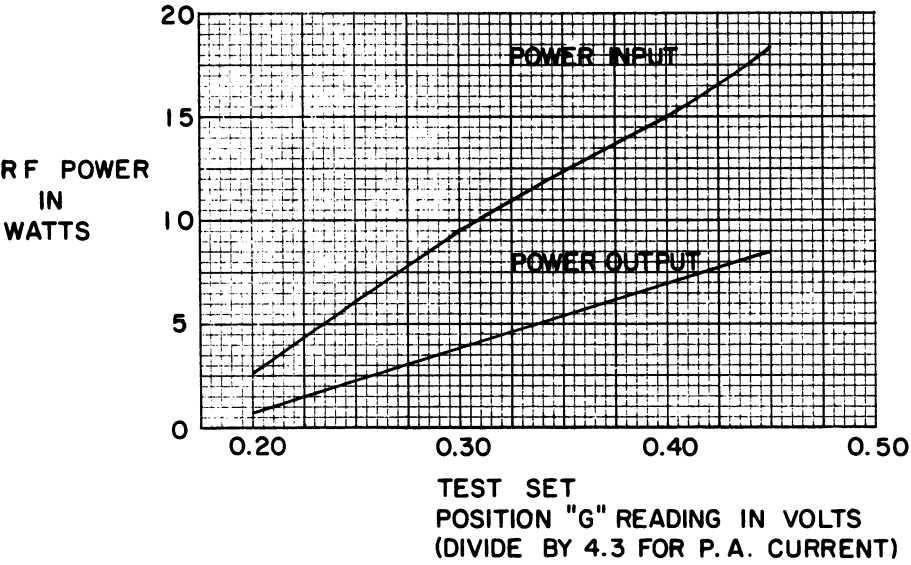
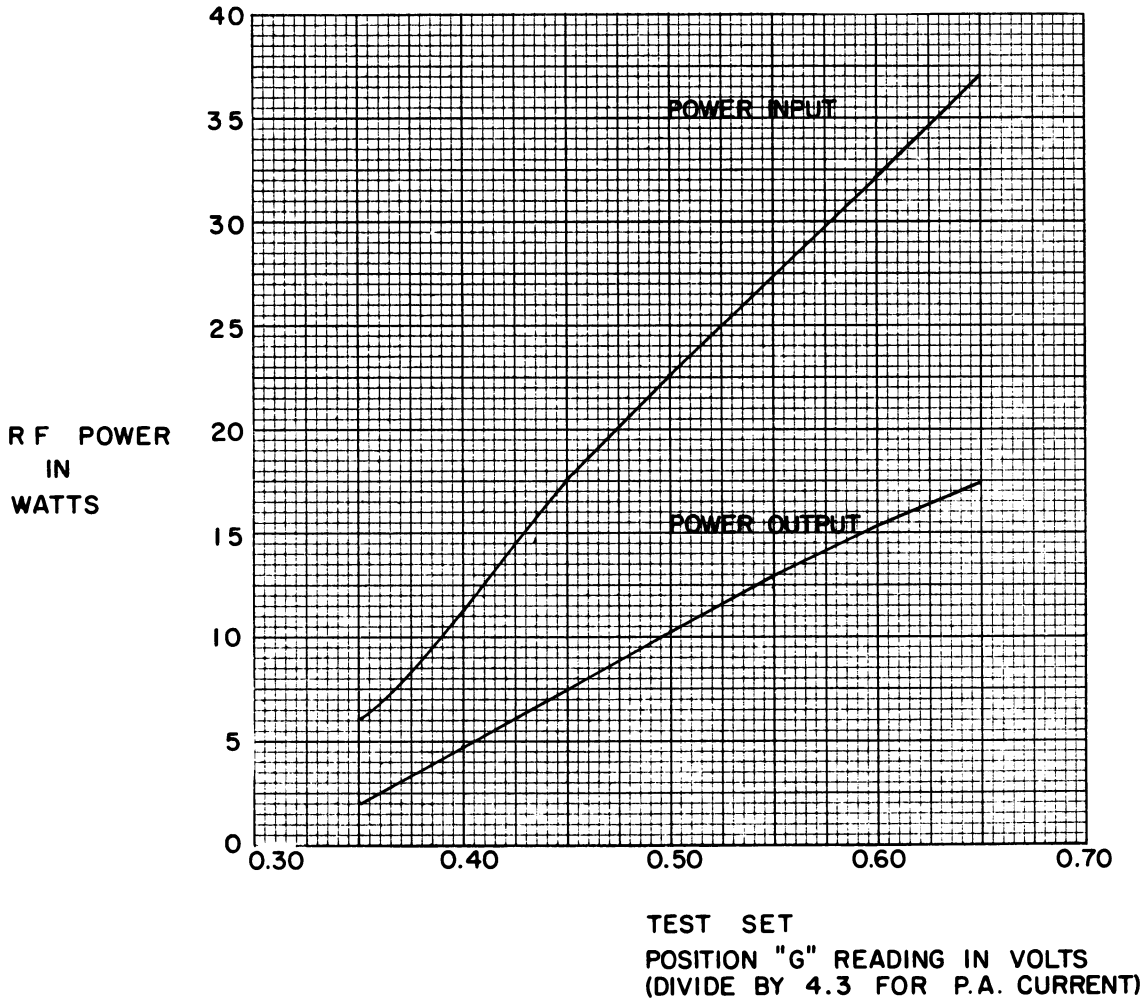

Figure 2 - Power input and output versus Position "G" reading with Ep=300 Volts
Figure 1 - Power input and output versus Position "G" reading with Ep=450 Volts
1. Determine which curve to use. If the plate voltage (Ep) is 450 volts, use Figure 1 curve. If the plate voltage (Ep) is 300 volts, use Figure 2 curve. Plate voltage is measured with G-E Test Set in Position G, using the 1000-volt scale (or measured from J201-1 to -16 with multimeter).